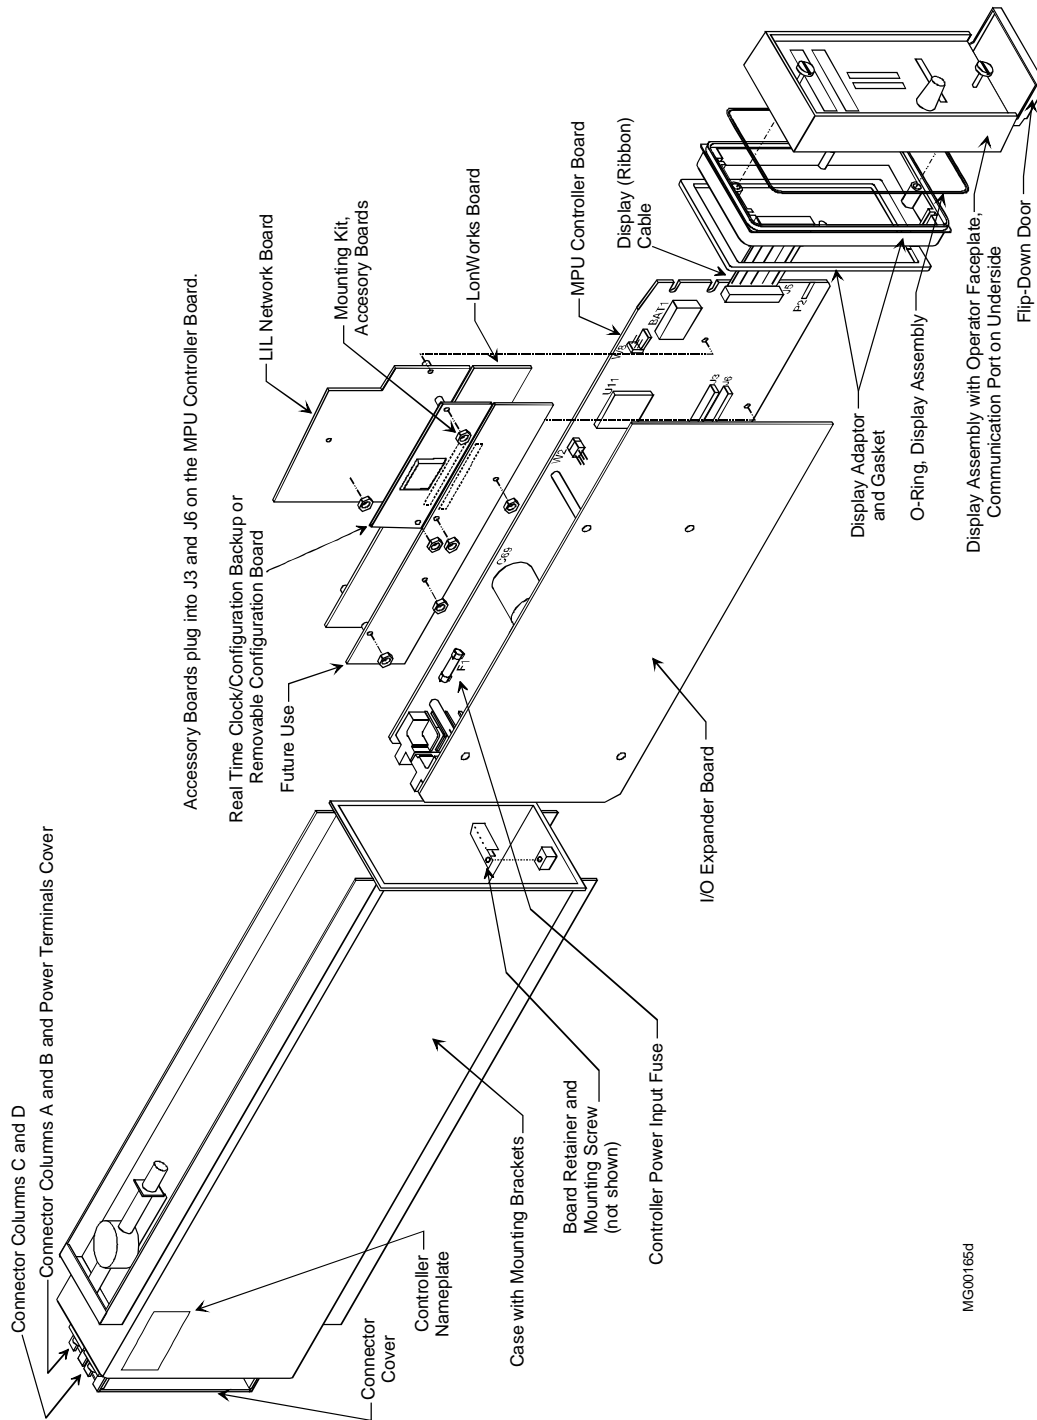

Figure 11-1 Model 352P Exploded View
Controller maintenance requirements are minimal. Activities such as cleaning and visual inspections should be performed at regular intervals. The severity of the controller's operating environment will determine the frequency of maintenance. Additional topics including troubleshooting, assembly replacement, and software compatibility are also covered. Figure 11-1 shows an exploded view of the controller.
3. Fold down the Display Assembly's flip-down door and loosen the now accessible captive screw. Do not loosen the black screw above the numeric display. See Figure 11-1 as needed. Pull the Display Assembly from the panel about 1.5" (38 mm).
In the event a malfunction within the controller is suspected, troubleshooting by assembly substitution is recommended to get the controller back on-line in the shortest possible time. The plug-in design of controller assemblies permits rapid removal and replacement to isolate a defect. Figure 11-1 shows controller assemblies.